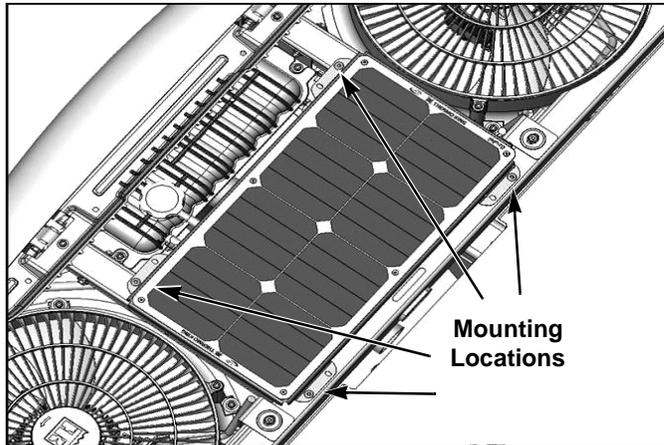

Figure 4
3. Position the solar panel on top of the precedent unit between the condenser fans with the rear mounting tabs against the trailer wall (**Figure 4**).